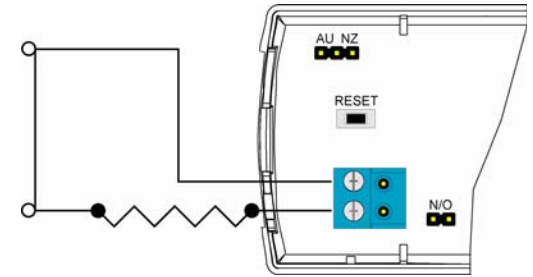

Figure 3 Wired for N/C operation
2. Wire the 2.2K ohm resistor in parallel with the N/O contact per Figure 3.